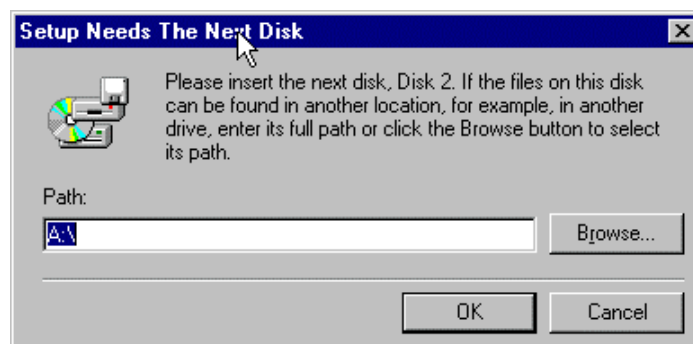

Figure 42 – Insert Disk 2
15. All necessary files and programs for the **GLOBALVISION AGENT** will now be transferred from the floppy disks to hard drive. Insert DISK 2 into the floppy drive when prompted. Click **OK** after inserting the next disk. See Figure 42.